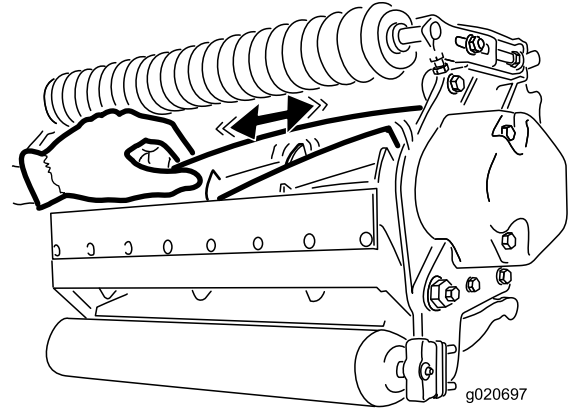

Figure 24
2. Using a rag or thickly padded glove, hold on to the reel blade and try to move the reel assembly side to side (Figure 24).